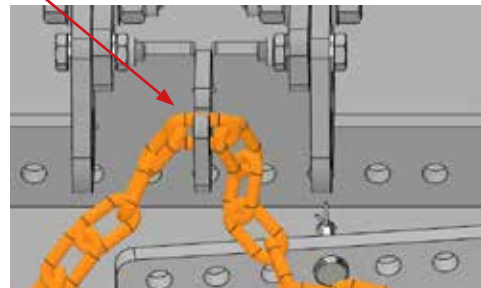

Fig. 70. Detail: Excavator suspension chain
3. Move the chain the required number of links and re-hook it into the suspension (see Fig. 70).